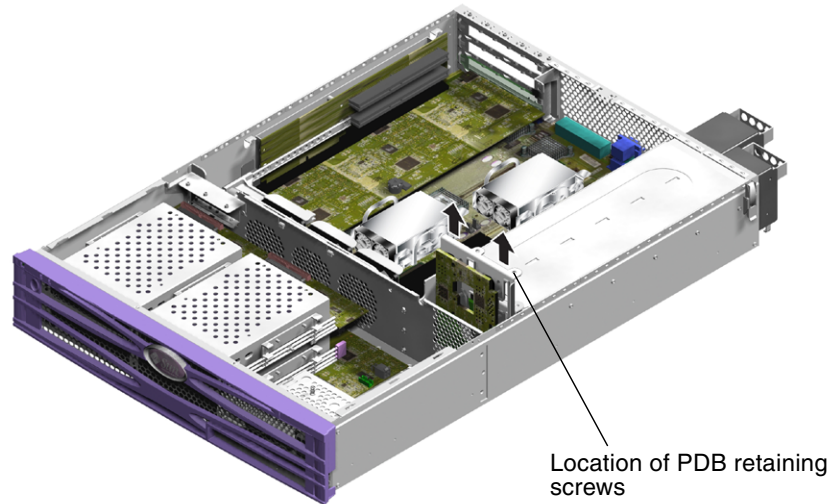

FIGURE 1-15 Removing the Power Distribution Board (Sun Fire V240)
6. Withdraw the PSU or PSUs from the chassis far enough to unplug them from the PDB (FIGURE 1-15).
7. Unscrew the retaining screws that hold the PDB assembly in place (FIGURE 1-15).